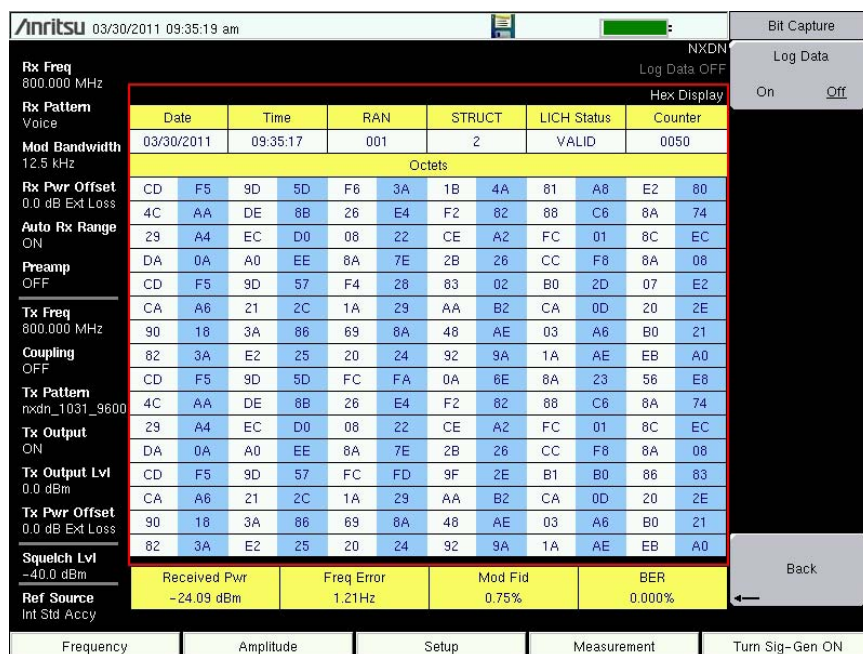

Figure 3-14. Bit Capture Measurement
3. To save bit capture data for additional analysis, insert a formatted USB flash drive into the LMR Master and turn Log Data On. (Figure 3-14).